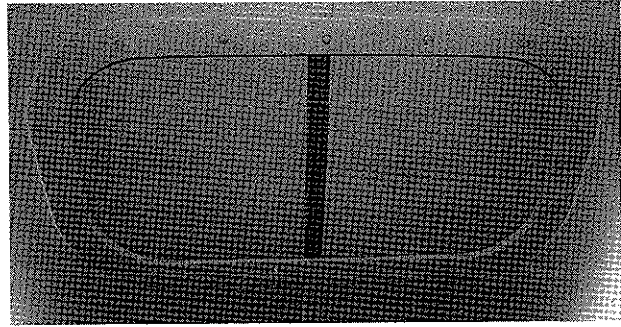

Figure 11-6. Skylight.
1. Remove caps over the screws which hold the white skylight trim in place. Using a pointed object with a blunt tip (Figure 11-6) and pry them off.